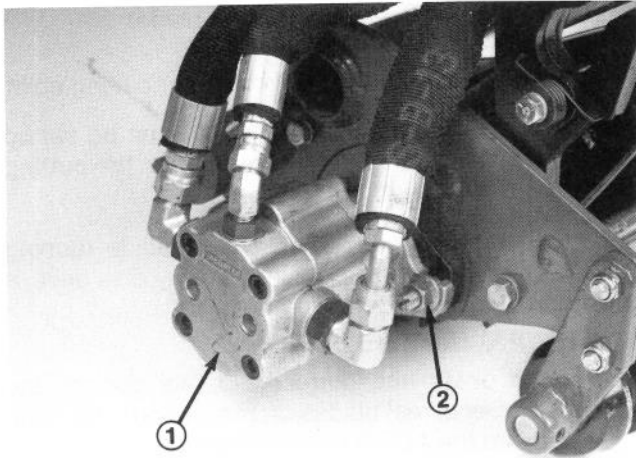

Figure 12
9. Assemble the mounting nuts for the reel drive motor to each cutting unit (Fig. 12). Leave approximately 1/2" of threads exposed on each mounting stud.